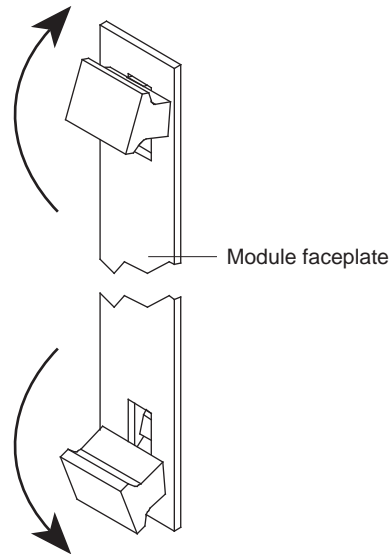

Figure 3 Handles in Outward Position
- 4 Grasp the inject/eject handles of the module and push them outward as shown in Figure 3.